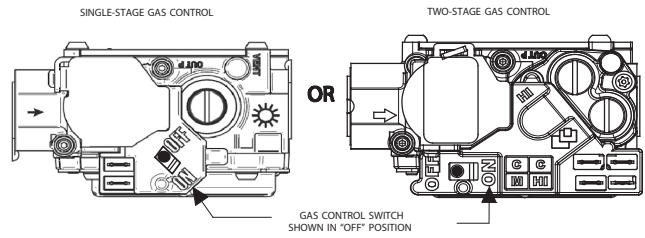

Fig. 10 - Control Switch to OFF
5. Turn the control switch on the gas control to the OFF position and wait 5 minutes. See Fig. 10. Then smell for gas, including near the floor. If you smell gas, STOP! Follow “B” on furnace label. If you don’t smell gas, go to next step.